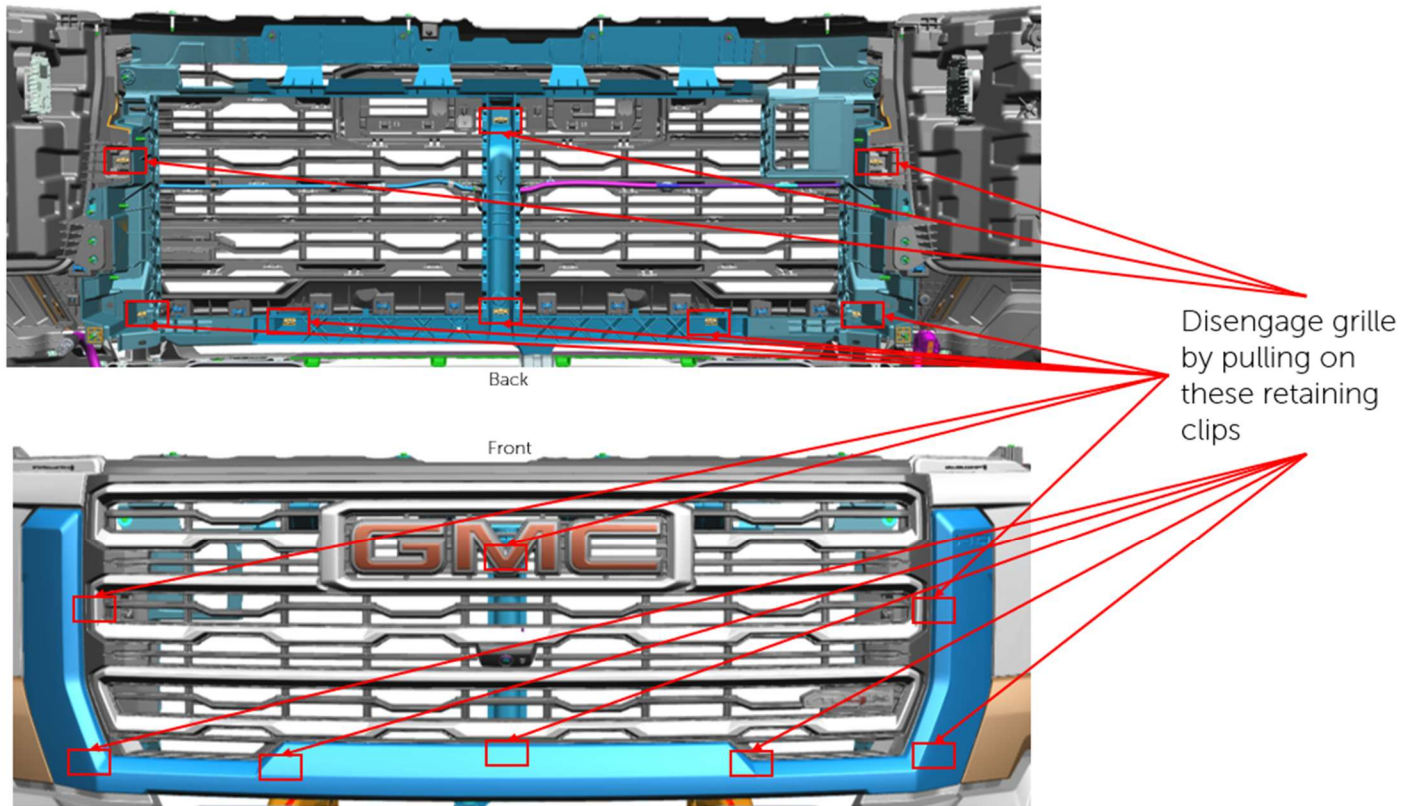

Figure 8
E. Disengage 6 retaining clips of grille fascia from body. – See Fig. 8